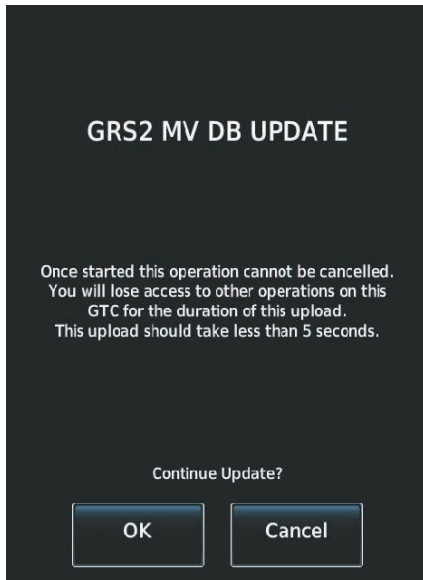
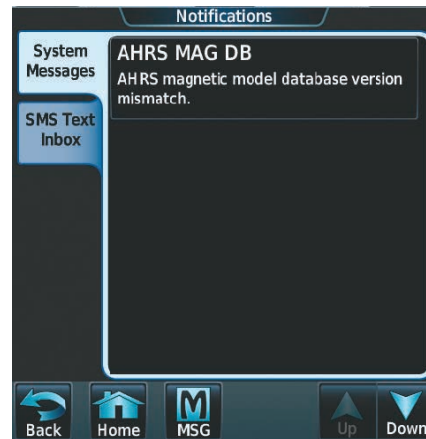

Figure B-14 GRS2 Magnetic Field Variation Database Update Prompt
Figure B-15 Database Mismatch Message is Annunciated Before Second GRS is Updated
- 2) When the upload is complete, the prompt for the next GRS upload is displayed, as seen in Figure B-14. A database mismatch message, as seen in Figure B-15, indicates the second GRS has not yet been updated.